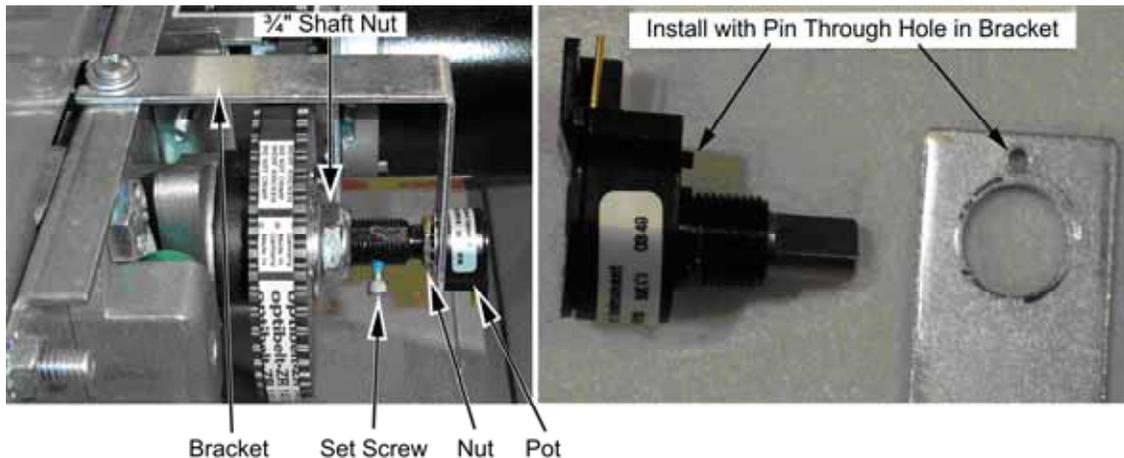
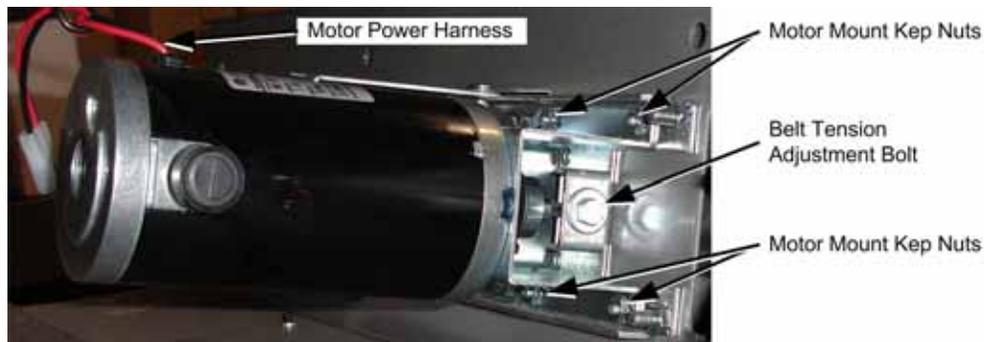

Figure 18. Replacing the 5 K $\Omega$  Steering Pot
Figure 19. Servicing the Steering Motor
To replace a pot, refer to Figure 18 and perform the following steps:
4. Reverse these steps to install the new pot. Install the pot with the plastic pin through the small hole in the bracket, as shown in Figure 18 below. Use Loctite to ensure the set screw is secure.
Refer to Figure 18 above, and Figure 19, and perform the following steps to remove the force-feedback belt for repair. Always replace the belt if it looks cracked or worn.
2. Using a 7/64 Allan wrench, loosen the set screw from the steering column and remove the bracket with the pot attached (see Figure 18).
3. Loosen the four (4) 3/8" motor mount Kep nuts that secure the steering motor to the frame (see Figure 19).
4. Using a 10mm socket wrench, loosen the belt tension adjustment bolt several turns until you can slip the belt off of the motor and steering gears (see Figure 19).
6. To replace the motor, remove the four (4) 3/8" Kep nuts that you loosened in step 2, and remove the motor.
1. Tighten the tension adjustment bolt on the motor assembly, shown in Figure 19, until the belt is fully stretched, and then loosen the bolt by ½ turn.